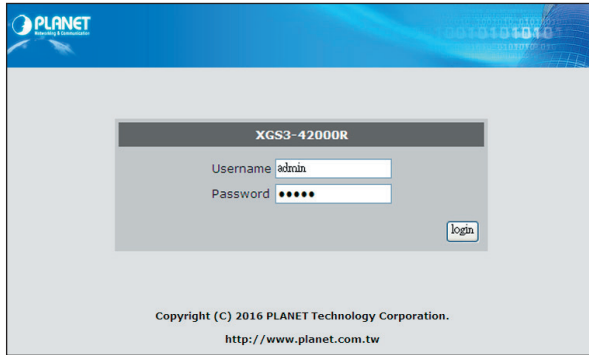

Figure 12-1 Web Login screen
- When the following dialog box appears, please enter the configured user name **"admin"** and password **"admin"** (or the username/password you have changed via console). The login screen in Figure 12-1 appears.